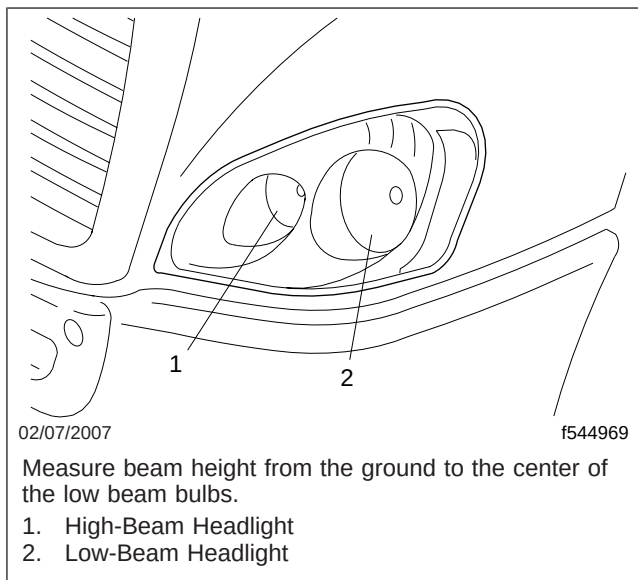

Fig. 2, Headlight Beam Height
2. On each headlight, find the low beam bulb center. See Fig. 2.